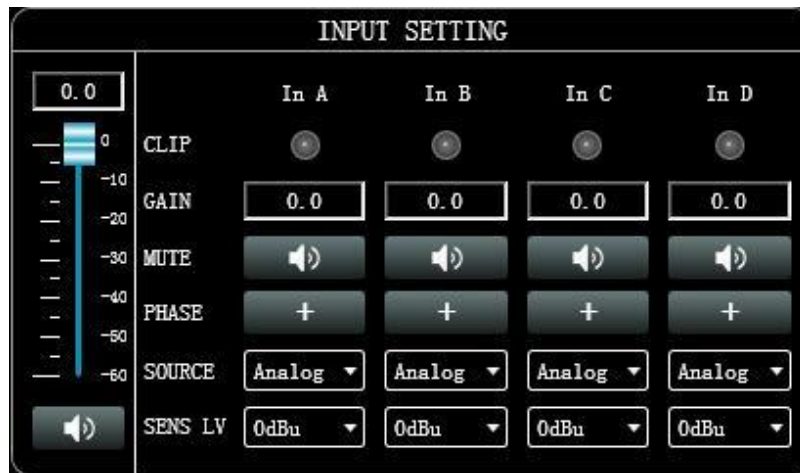

Figure 6.1.3
1. As shown in Figure 6.1.3,  is the total volume push button, you can use the mouse to drag, or you can directly enter the exact value in the input box .  is the mute button.